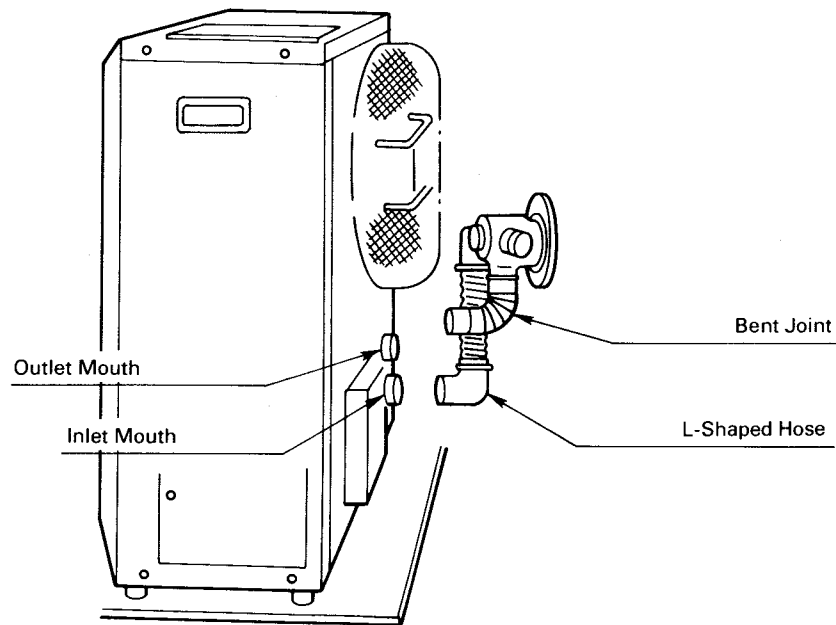

Fig. 13
9. Move the heater into position. Connect the bent joint to the exhaust outlet mouth (upper opening) and attach the L-shaped hose to the intake inlet mouth. Make sure all connections are tight (See Fig. 13).